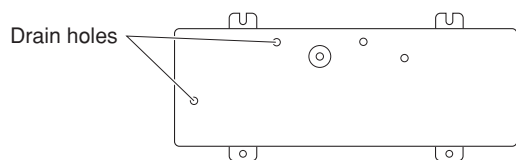

Fig. 5a
- provide a solid base (level concrete pad, concrete block, 4" × 1'4" (10 × 40 cm) beams or equal), a minimum of 4" (10 cm) above ground level to reduce humidity and protect the unit against possible water damage and decreased service life. (Figs. 5a and 5b)